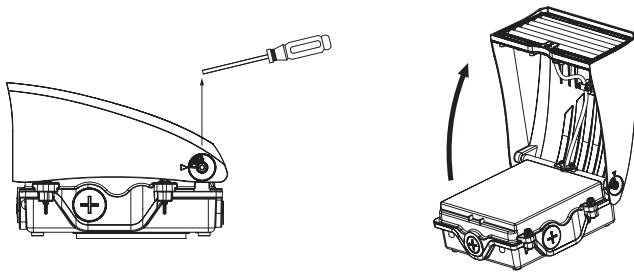

Fig. 1
1. Loosen the angle adjustment screws (Fig. 1) with a hex screwdriver, then adjust to 90°.